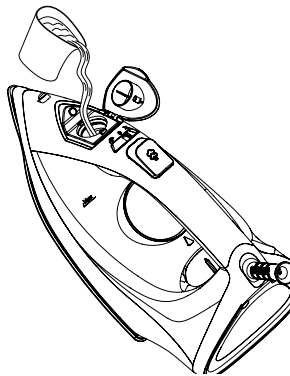

figure 2
3. Set the Iron in the position indicated below (figure 2) and fill it with water, no higher than the Max fill level shown on the See-Through Water Window.